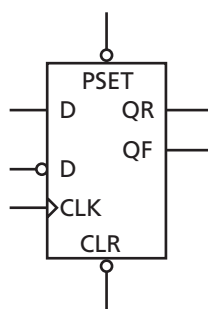

Figure 2-6 • DDR Register
2. Instantiate the DDR_REG macro (Figure 2-6).